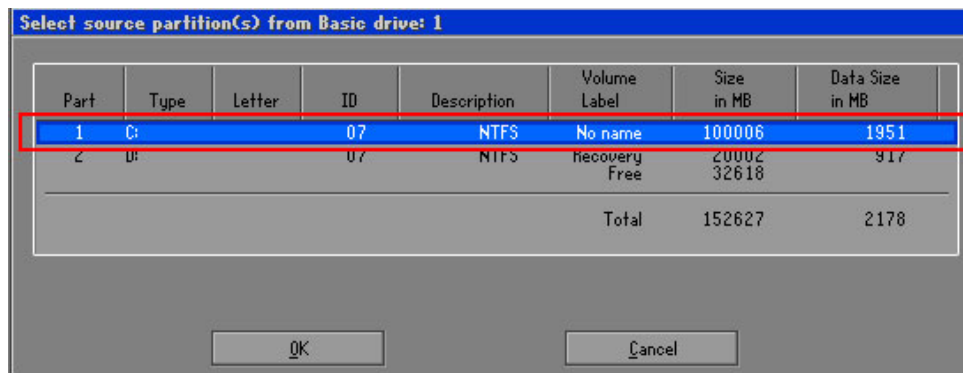

Figure A-15: Select a Source Partition from Basic Drive
**Step 6:** Select a source partition (Part 1) from basic drive as shown in **Figure A-15**. Then click OK.